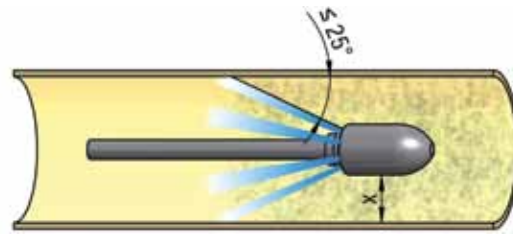

Fig. 61: Schematic drawing of cleaning with high pressure water jetting
- Ensure that the nozzle remains at least 30 mm (x) away from the pipe wall. Use guides or spacers to maintain the minimum distance, if necessary (Figure 61).
- Keep the angle of the water jet to the pipe wall as small as possible. The angle for cleaning the pipe should be smaller than 25° (Figure 61).